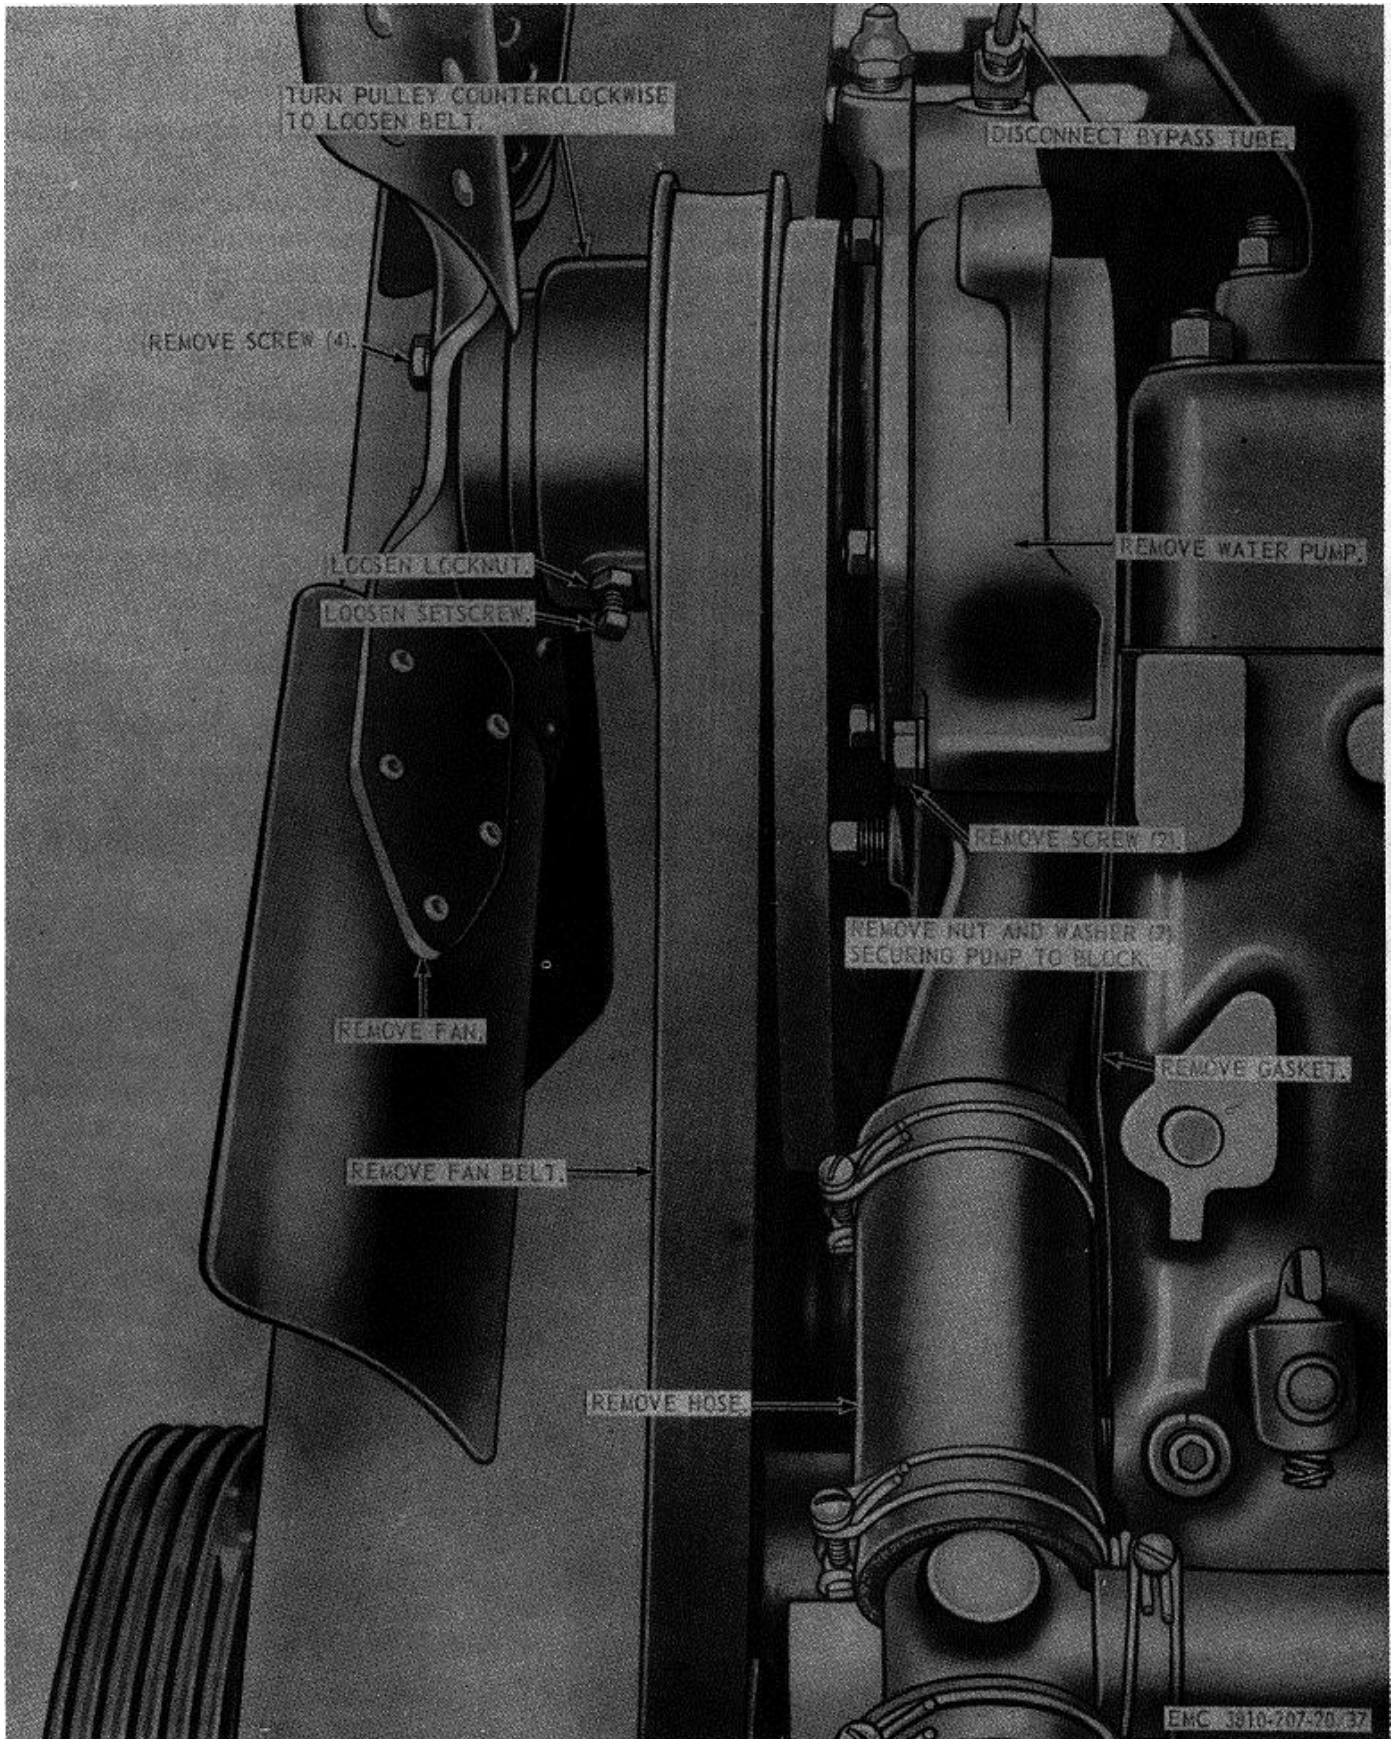

Figure 37. Fan, fan belt, and water pump, removal and installation.
- (1) Remove the radiator shroud and fan guard (par. 99).
- (2) Remove the fan and fan belt as instructed on figure 37.
- (1) Install the fan belt and fan as illustrated on figure 37.
- (2) Install the radiator shroud and fan guard (par. 99).
(5) Remove the water pump as instructed on figure 37.
- (1) Install the water pump as illustrated on figure 37.
- (2) Install the fan and fan belt (par. 100).
- (3) Install the generator belt (par. 71).
- (4) Install the fan guard (par. 99).
- (5) Fill the cooling system (TM 5-3810-207-10).